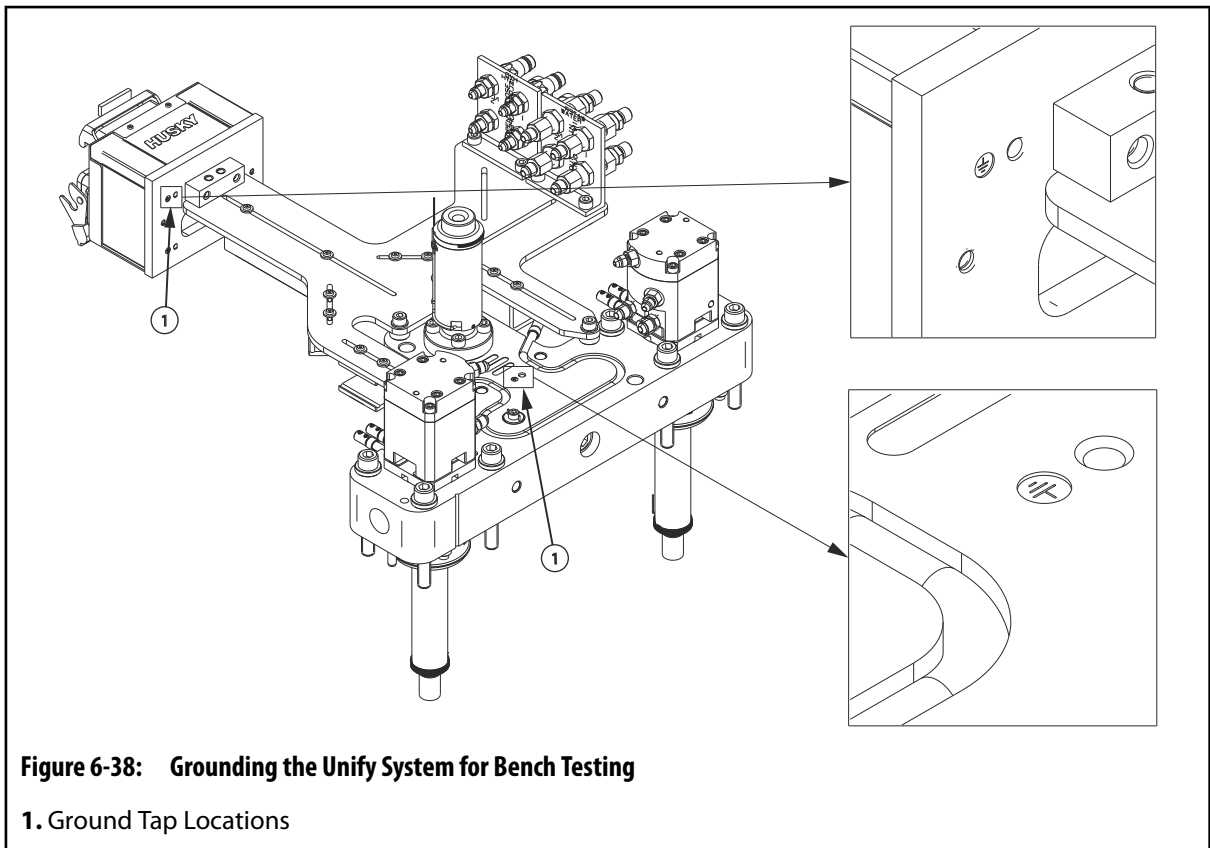

Figure 6-38: Grounding the Unify System for Bench Testing
1. Connect the ground wire to one of the two ground taps. Connect one wire to the manifold surface and one wire on the electrical box mounting plate. Both locations are clearly marked with a protective conductor terminal symbol. Refer to Figure 6-38.